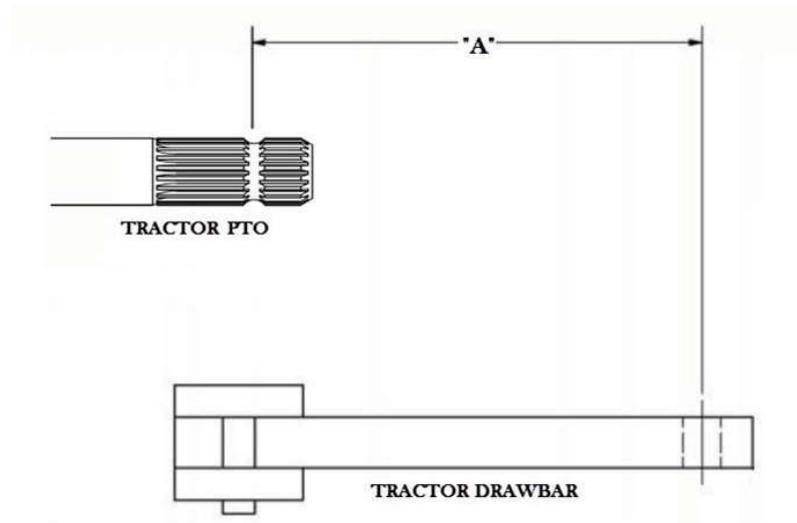

Figure 10 — Position of the Drawbar
1. Place the tractor's drawbar so that the axis of the hitch pin hole is an appropriate distance from the end of the PTO shaft (see Table 6 and Figure 10).